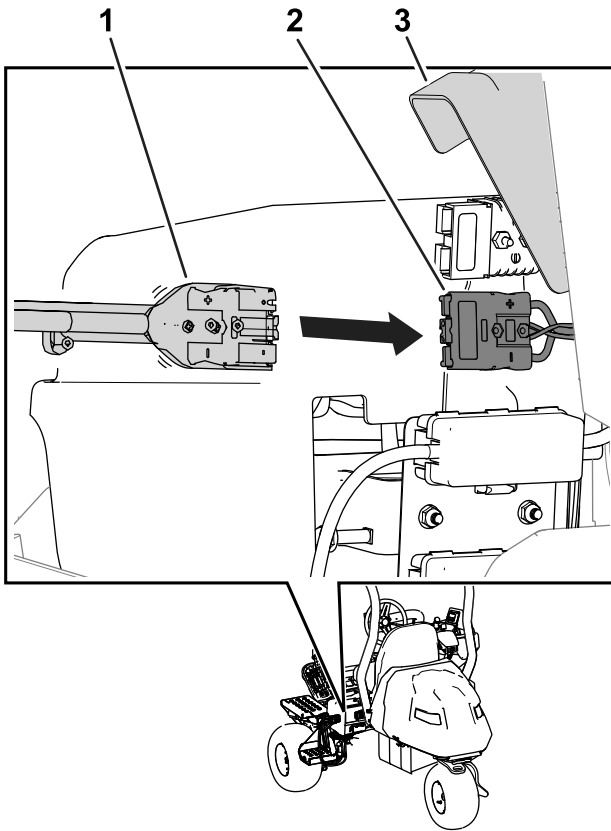

Figure 40
7. Raise the connector cover and slide the charger-output connector into the charger connector on the machine (Figure 40).